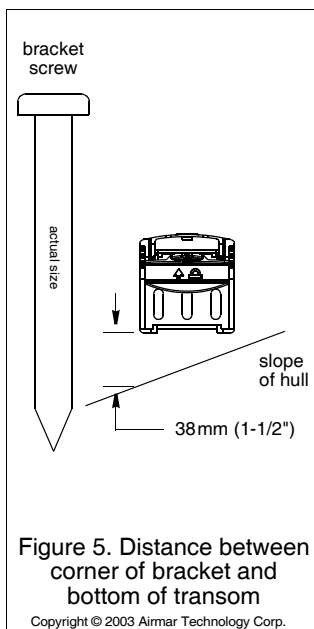

Figure 5. Distance between corner of bracket and bottom of transom
1. Apply marine sealant to the threads of the three, #10 x 1-3/4", self-tapping screws to prevent water seepage into the transom (see Figure 5). Screw the bracket (and shim if needed) to the hull. *Do not tighten the screws at this time.*